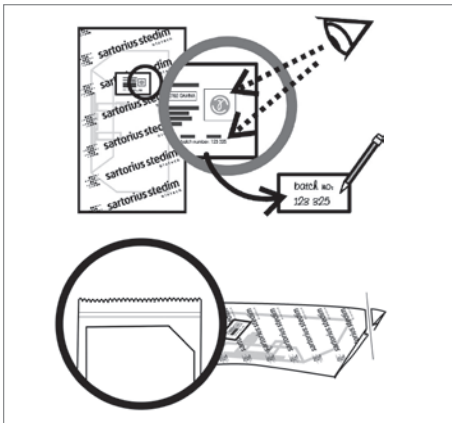

Fig. 8: Preparation of the Palletank®
2. Check that the irradiation indicator on the label is red to indicate irradiated product. Record the batch number of the bag (as seen on the product label) (see Fig. 8).